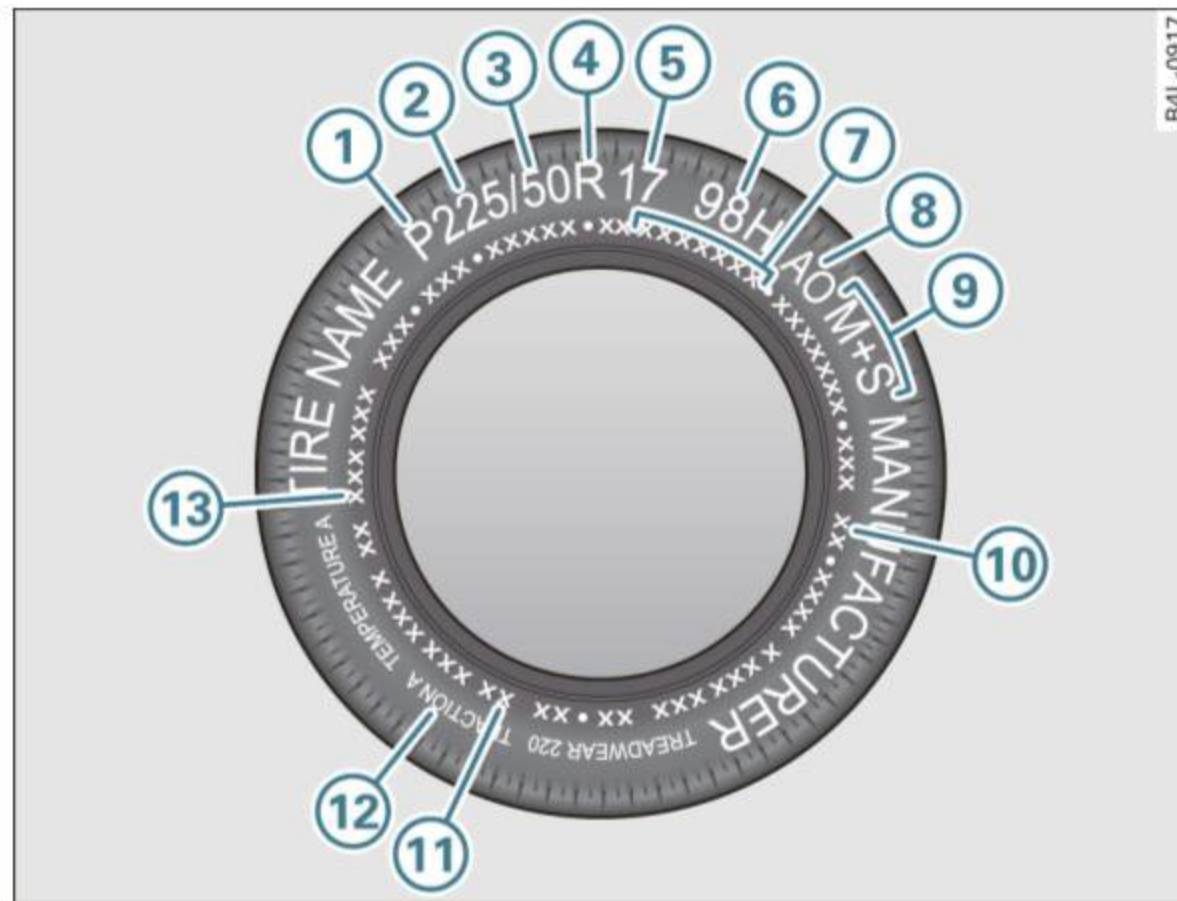

Fig. 216 Tire specification codes on the sidewall of a tire
- Check the tire sidewall (⇒ *page 303*, fig. 216) to determine the designated load rating for a specific tire. ■
Federal law requires tire manufacturers to place standardized information on the sidewall of all tires ⇒ *page 303*, fig. 216. This information identifies and describes the fundamental characteristics, the quality grade of the tire and also provides a tire identification number for safety standard certification and in case of a recall.
Quality grades can be found where applicable on the tire side wall between tread shoulder and maximum section width ⇒ *page 303*, fig. 216.